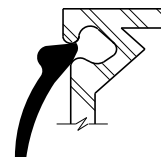

FIGURE 2
4. PUSH THE LUG INTO THE CHANNEL AND THEN USE A BENT BAR TO FORCE THE LUG INTO THE CHANNEL (MAKE SURE THAT THE BAR IS DULL TO PREVENT PUNCTURING OF THE SEAL) (SEE FIGURE 2)